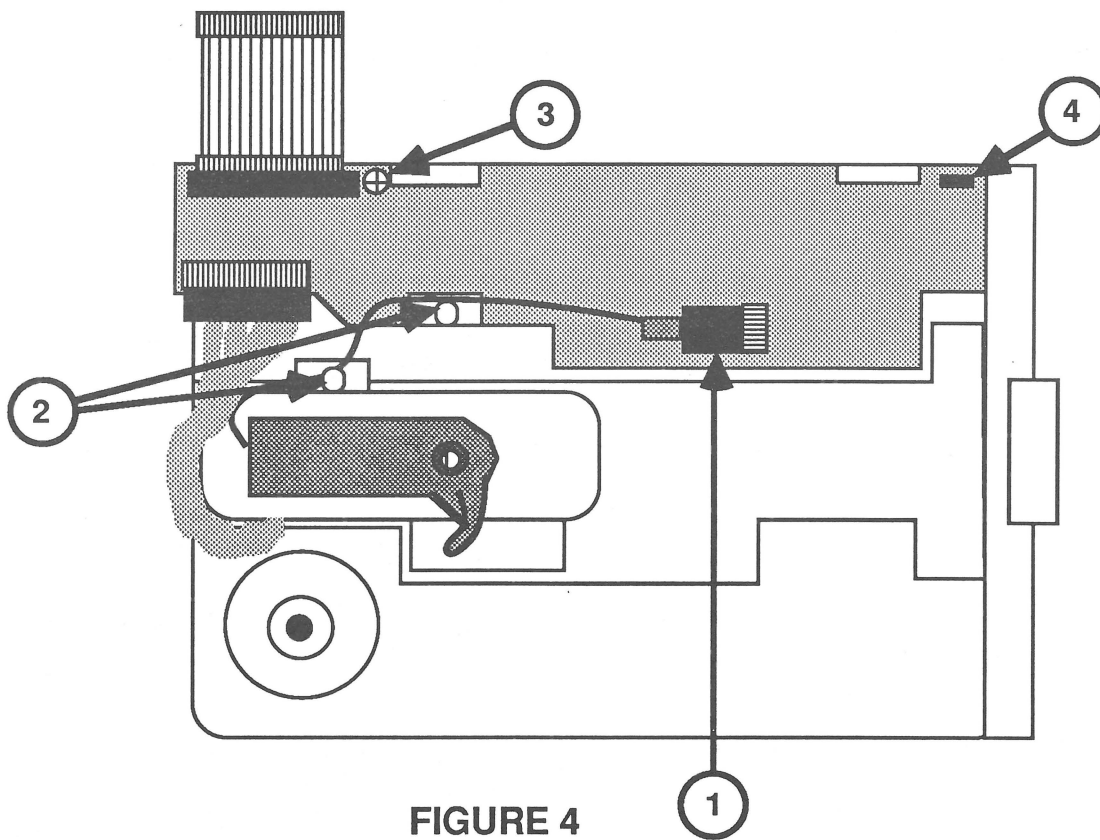

FIGURE 4
6. On the analog card, disconnect the cable from connector J3 (Figure 4, #1) and carefully remove the wire from the clips (Figure 4, #2).
7. Remove the Phillips screw that mounts the analog card to the disk drive chassis (Figure 4, #3).
1. Slide the front edge of the card under the two plastic posts located on the inside of the disk drive bezel. Lay the card on the chassis so that the alignment tab (Figure 4, #4) protrudes through the hole.
3. Look at the read/write head cable (Figure 4, #1) that attaches to connector J3, and note that only four wires are connected to the five-pin connector. Connect the read/write head cable, making sure that each wire makes contact with a pin on the header.